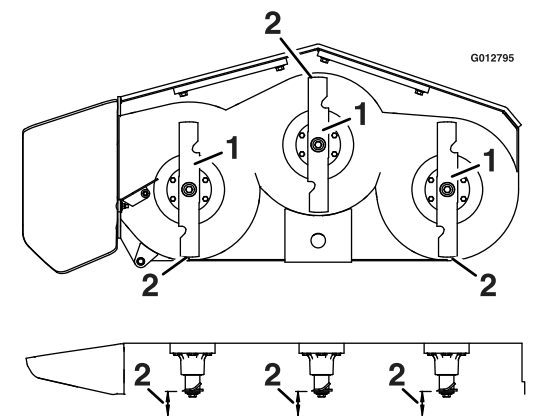

Figure 24
5. Carefully rotate the blades front to rear (Figure 24). Measure from the tip of the front blade to the level surface and the tip of the rear blade to the level surface on all blades. The blades should be 1/4 inch (6.4 mm) lower in the front than in the rear.